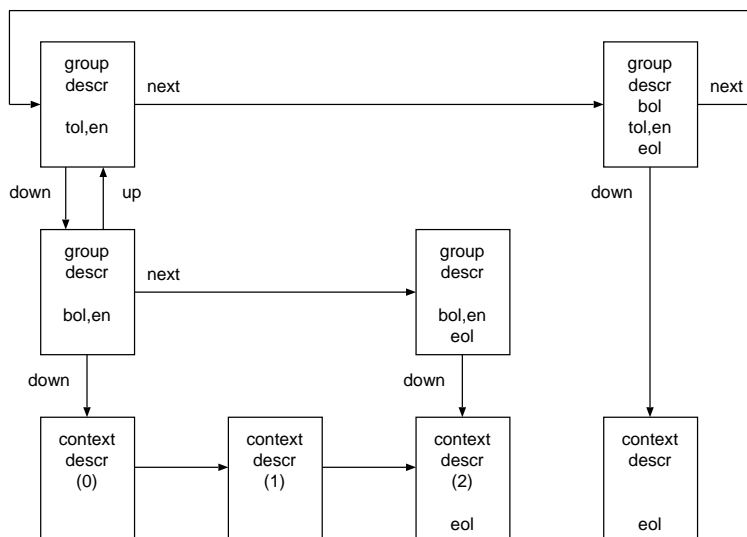

Figure 5.3: USB Example
The data is transported between the DMA and memory in chunks of 32 bytes whenever possible, to take advantage of the 32 byte wide on-chip bus. Theoretically, each physical DMA channel is able to handle an unlimited number of virtual channels, by means of the advanced list structure shown by the figure 5.3 in section 5.4.3.
With this arrangement it is possible to get different transmit intensity for different contexts, like different USB end points. For example, in the 0, 1, 2, 2, 0, 1, 2, 2, ... sequence shown in figure 5.3, context (2) can get twice as many transmission opportunities as context (0) and (1).